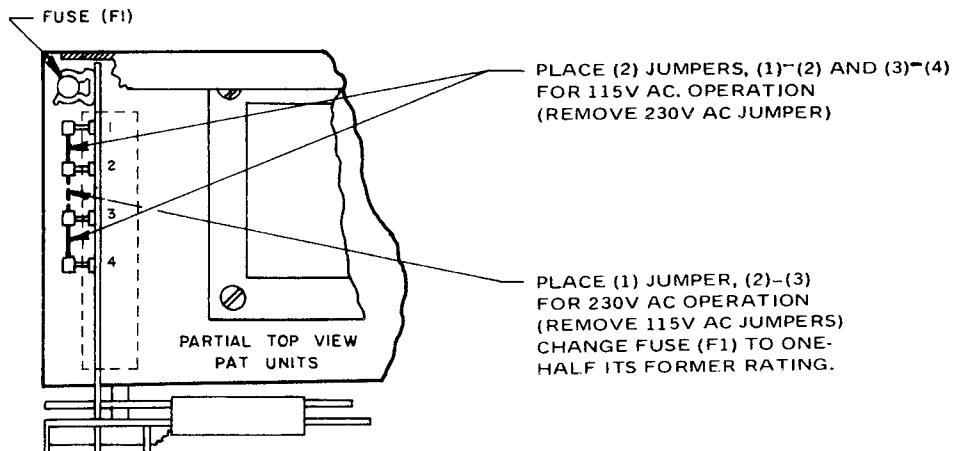

FIG. 2-2 CONVERSION TO 230V A-C OPERATION.
- 2-6 This power supply is normally shipped for operation from a nominal 115V a-c source, single phase. If 230V a-c operation is desired, the transformer primary link connections must be changed as shown in FIG. 2-2.